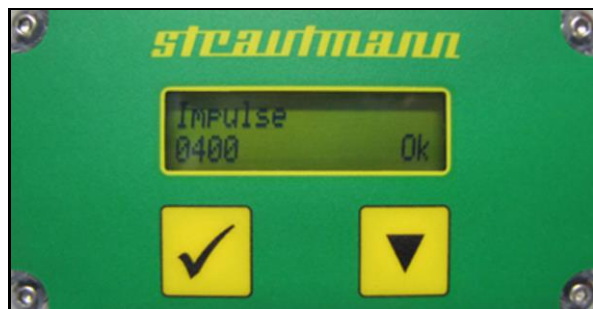

Fig. 89 „Impulse“ = Pulses
- The **Change pulses** menu (Fig. 89) appears. The currently selected digit is